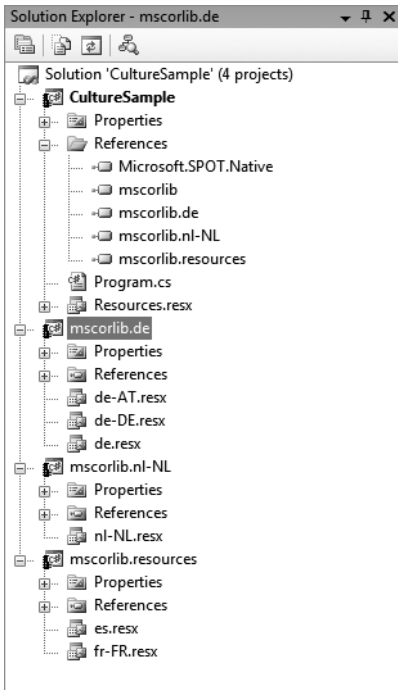

Figure 10-6. A solution with several mixed cultures
3. Now, add a new resource file with the name of the desired culture (for example, `de` or `de-DE`). You accomplish this by clicking the menu item `Project ► New Item ► Resource File`. In the Solution Explorer, you can see the new resource file indicated by the extension `.resx`. Figure 10-6 shows a solution with several mixed cultures.